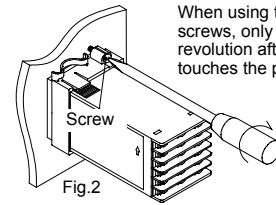

Fig.2
5. Fix the instrument to the panel by using the two screws. (Fig.2)